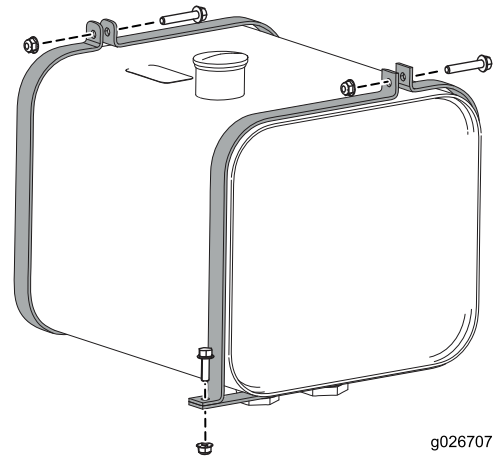

Figure 41
8. Loosen the hydraulic tank straps and remove the hydraulic tank from the machine (Figure 41).